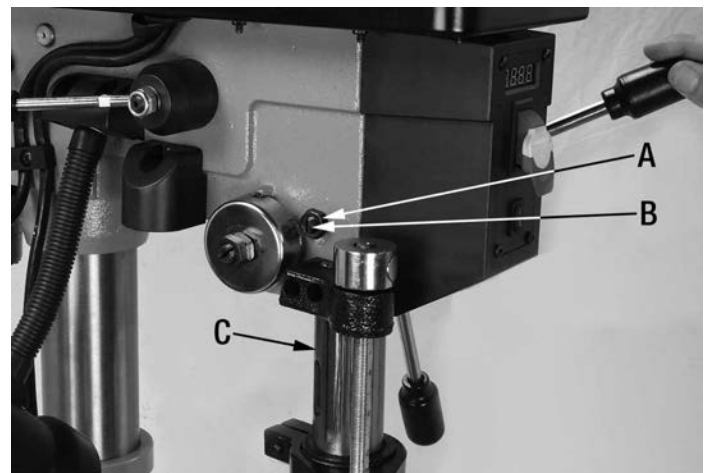

FIGURE 23
If a small or excessive play in the quill/spindle is noticed, an adjustment can be made. Using the downfeed handles, lower the quill/spindle (C) Fig.23 as far as it will go. Check to see if there is excessive play (side-to-side movement) in the quill/spindle. If there is play, adjust as follows:
- 1) Place a flat head screwdriver on the screw (B) Fig.23, while preventing the screw from turning, loosen large hex. nut (A).
- 2) Slightly tighten the flat head screw (B) until the play is eliminated. Note that a small amount of play is normal.
- 4) Place a flat head screwdriver on the screw (B) Fig.23, while preventing the screw from turning, retighten large hex. nut (A).